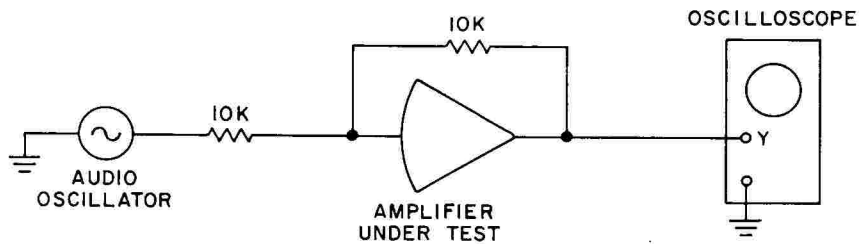

Figure 10. Frequency Response Test Circuit
(1) Patch the amplifier for unity gain using 10K ohm resistors (Figure 10).
(2) Connect the output of a well-regulated audio oscillator to the amplifier input. Connect an oscilloscope to the oscillator output and adjust the oscillator and oscilloscope controls until a 20 millivolt peak-to-peak deflection appears on the oscilloscope screen. Vary the oscillator frequency from a few cycles to about 200 kilocycles. Be certain that the amplitude of the oscillator output remains constant over the frequency range. If it does not stay constant, the oscillator amplitude control must be adjusted for each frequency check point.
(3) Connect the oscilloscope to the amplifier output. Observe the amplitude of the amplifier output voltage as the generator frequency is varied. No pronounced peaks or dips (greater than ten percent) should occur below 100 kilocycles. At 200 kilocycles, the amplifier output should be decreased by less than 3 db. (That is, the output voltage should be greater than 70.7 percent of the input voltage up to 200 kc.)